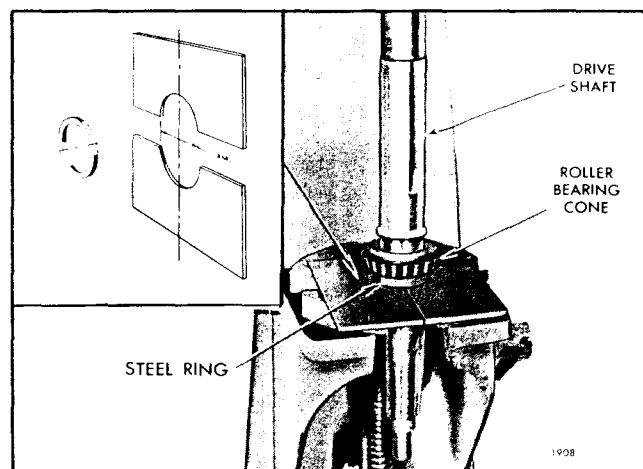

Fig. 15 - Installing Roller Bearing Cones On Clutch Drive Shaft
1. Lubricate the inside diameter of the roller bearing cone with engine oil; then start the bearing cone straight on the drive shaft with the wide face of the race facing the shoulder on the drive shaft (Fig. 15).
3. Support the clutch drive shaft, bearing cone and steel ring on the bed of an arbor press with split plates under the steel ring as shown in Fig. 15. Then press the drive shaft straight into the bearing cone until the inner race is tight against the shoulder on the shaft.